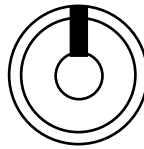

FIGURE 9
1. Stand alongside your Companion and insert the key into the key switch. See figure 4 on page 10 and figure 9 on this page.